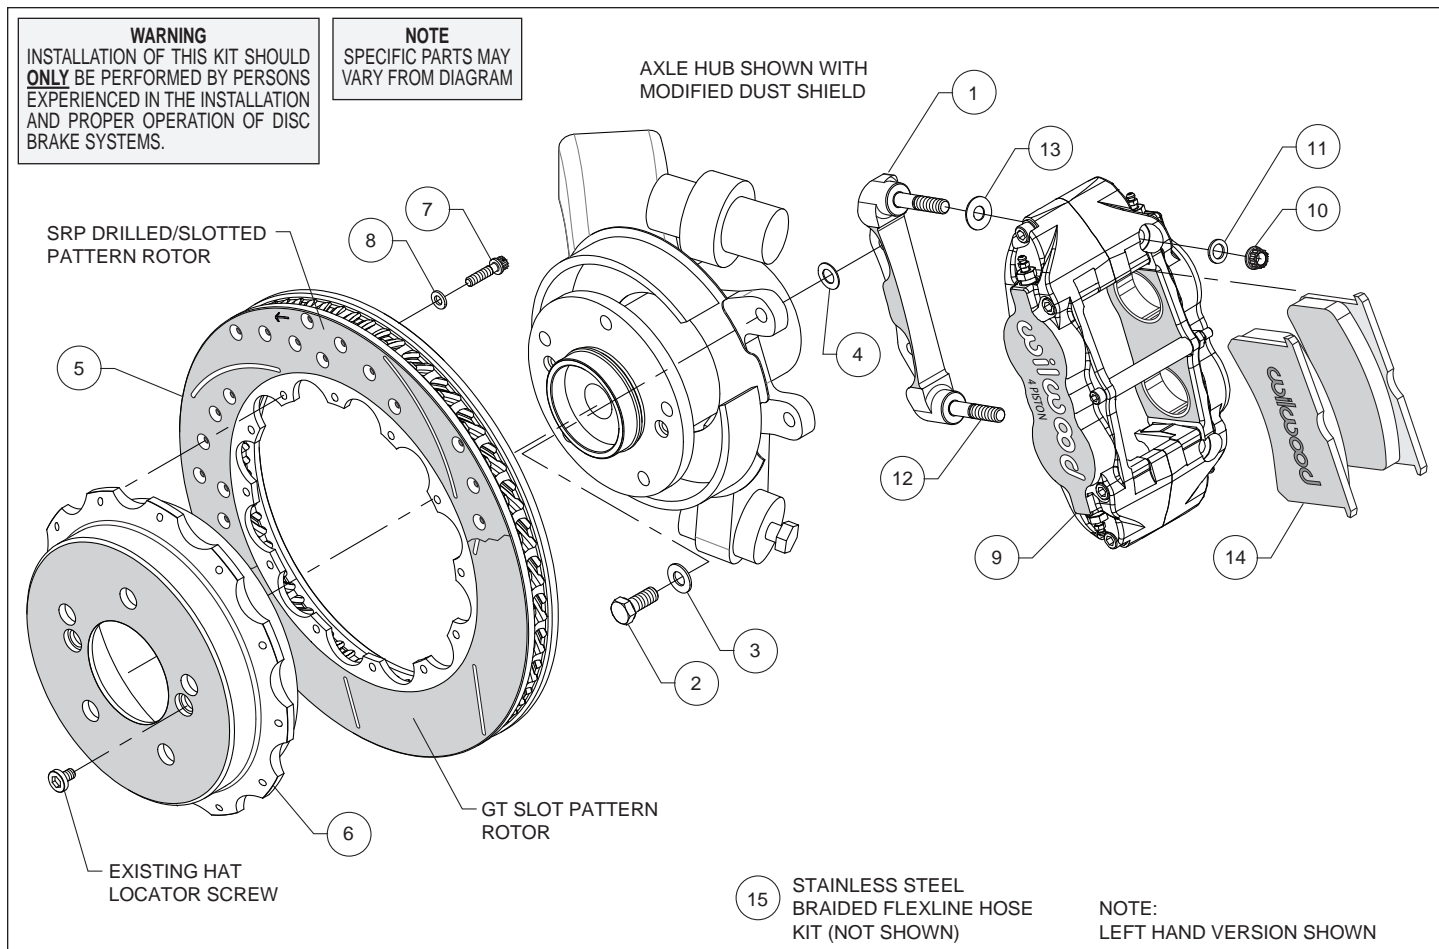
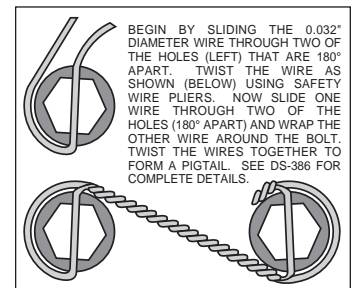

Figure 1. Typical Installation Configuration
Figure 3. Safety Wire Diagram
Assembly Instructions (numbers in parenthesis refer to the parts list and Figure 1 on the preceding pages):
- The caliper mount bracket (1) should initially be installed with clean, dry threads on the mounting bolts. Orient the bracket as shown in Figure 1 and Photo 3, and install using bolts (2) and washers (3). Initially place one .030 thick shim (4) on each bolt between the bracket and upright, Figure 1. Temporarily tighten the mounting bolts. **NOTE:** The bracket must fit squarely against the mounting points on the upright. Inspect for interference from casting irregularities, machining ridges, burrs, etc. Later, after the caliper alignment has been checked, the mount bolts will be secured using red *Loctite*® 271.
- Orient the rotor (5) and the hat (6) as shown in Figure 1 and Photo 4. Attach rotor to hat using bolts (7) and washers (8). Using an alternating sequence, apply red *Loctite*® 271 to the threads, and torque to 155 in-lbs. For an added measure of security, the bolts may be safety wired using standard 0.032 inch diameter stainless steel safety wire as shown in Figure 3. Please refer to Wilwood's data sheet DS-386 (available at www.wilwood.com/Pdf/DataSheets/ds386.pdf) for complete safety wire installation instructions.
- Lubricate the caliper mounting studs (12) with lightweight oil. Initially place one .035" thick shim (13) on each stud as shown in Figure 1 and Photo 6. Mount the caliper (9) onto the bracket (1) using lock nuts (10) and washers (11), Figure 1. Temporarily tighten the lock nuts and view the rotor through the top opening of the caliper. The rotor should be centered in the caliper, Photo 7. If not, adjust by adding or subtracting shims (4) between the bracket and the mounting bosses. Always use the same amount of shims on each of the two mounting bolts. Once the caliper alignment is correct, remove the bracket mounting bolts (2) one at a time, apply red *Loctite*® 271 to the threads, and torque to 35 ft-lb.
- Remove the caliper center bridge pad retainer bolt, nut, and tube from the caliper. Insert the brake pads (14) into the caliper, with the friction material facing the rotor, as shown in Photo 8. Check